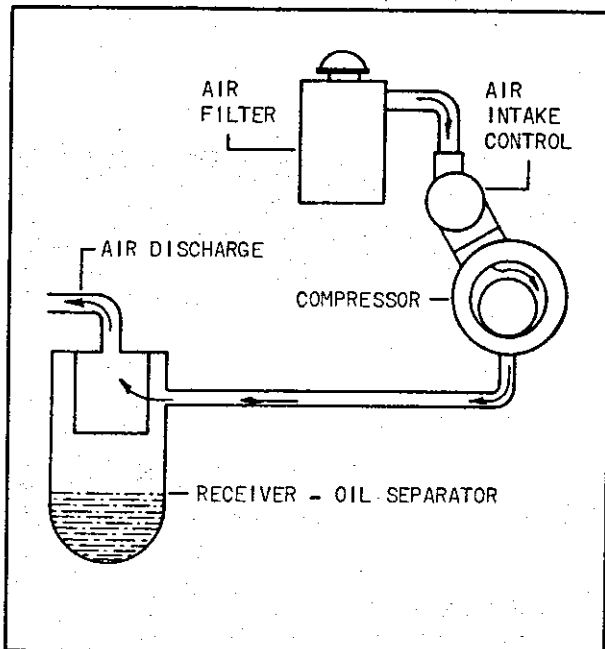

Figure 1-1. Air Cycle Schematic Diagram
a. AIR CYCLE. (See figure 1-1.) Free air is drawn into the stator through the air cleaner and intake control. The air enters through large ports in the end cover at a point where the vanes are well out of the rotor slots, thus filling the space segments between the vanes with air. In rotation, the vanes are moved radially inward in their slots by the bore wall. The volume between the vanes decreases, thus compressing the trapped air. At the rated point of compression, the discharge ports are reached and the compressed air passes into the discharge chamber. Oil is injected during the above cycle to cool the air, seal all leakage and lubricate all rubbing parts. The discharge chamber is positioned at the bottom of the stator to favor natural oil drainage.